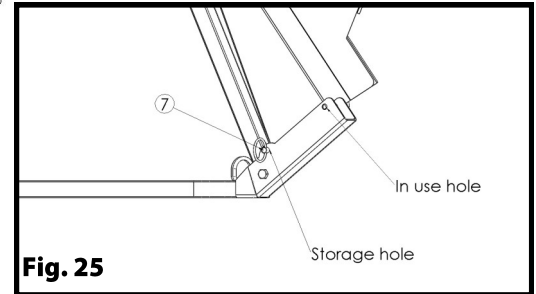

Fig. 25
- A:** Slide all four Inside net poles (17) down by pressing on the Pop Pins (20) (not shown)
- B:** Remove ball detent pins (7) from horizontal frame (1).
- D:** Fold up Main pole support (23).
- E:** Remove Female T-handle (5) from Ball ramp (22). Remove ball ramp (22) from L-Bracket (12). Flip around and place over net poles.
- F:** Reinstall Ball detent pins (7) in storage hole, see figure 25.